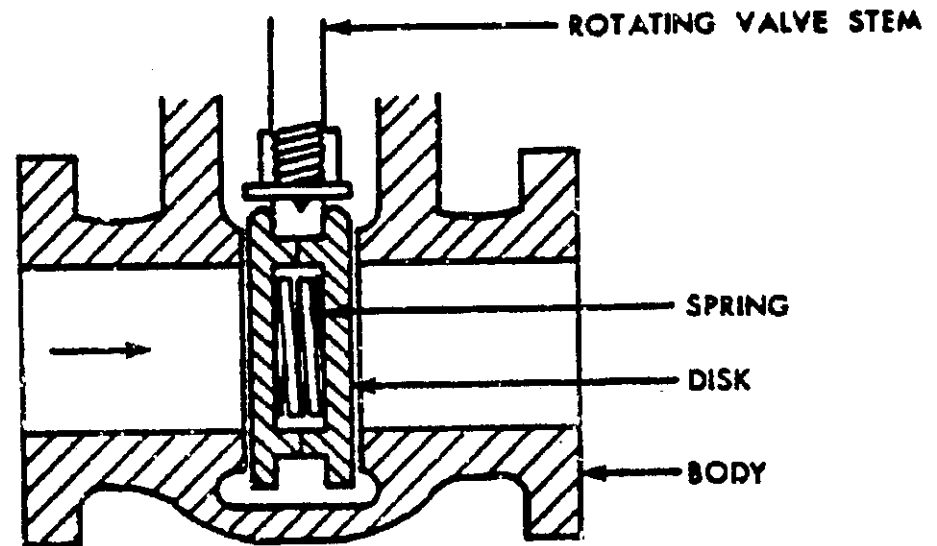

Figure 30: A Parallel Slide Gate Valve Body Assembly.
- The majority of motorized valves are parallel slide gate valve, as shown in Figure 30.